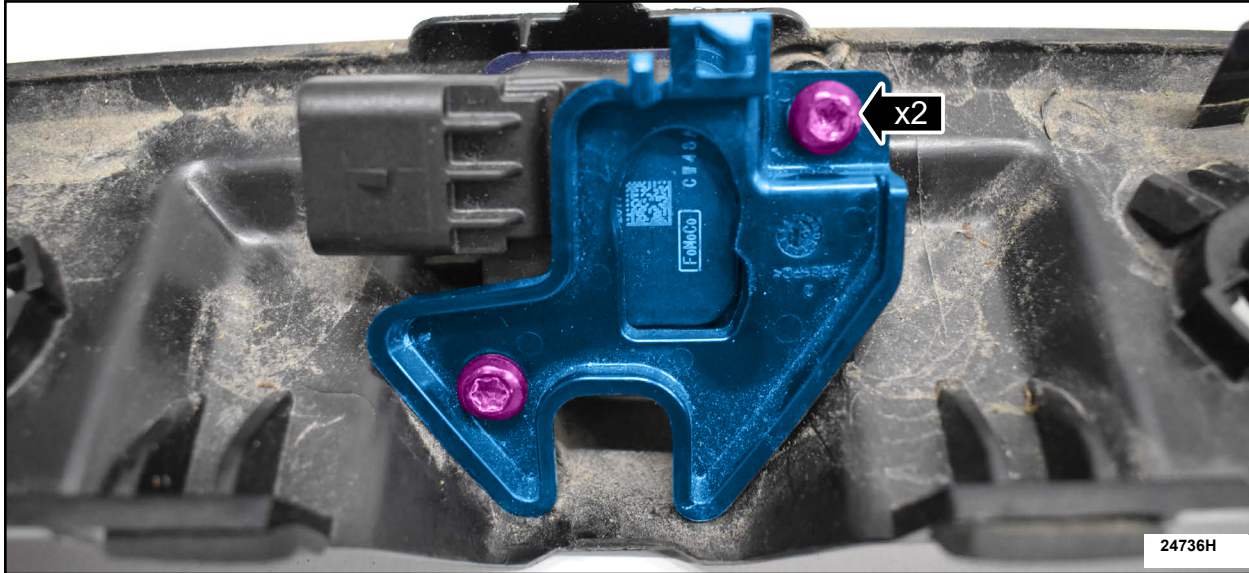

FIGURE 8
9. Remove the screws and the retaining plate. See Figure 8.